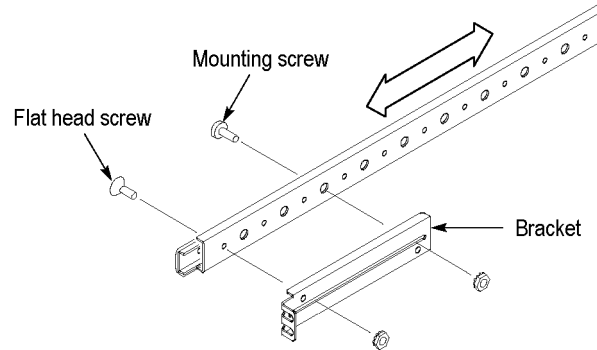

Figure 6: Preparing the track assembly
1. Remove the mounting screw that is attached to each track. (See Figure 6.)